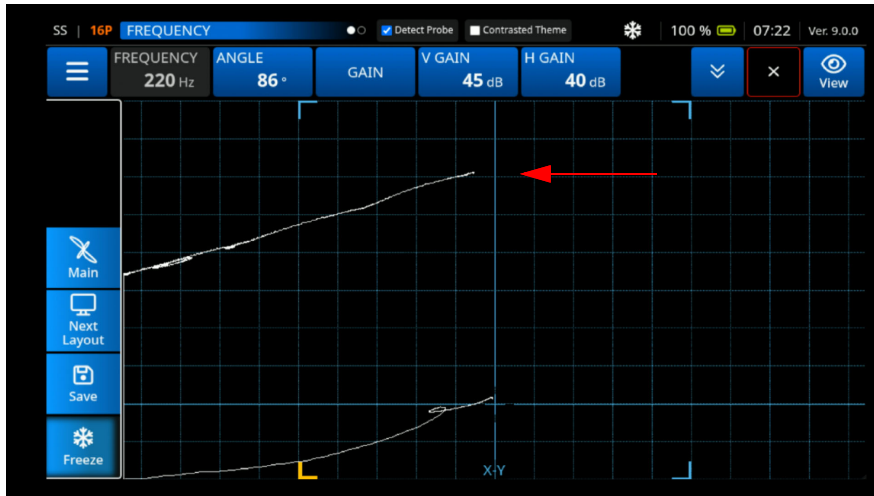

Figure 3-73 Adjust the V Gain Setting
- Using the **V Gain** setting and the knob, adjust the cracked fastener signal at **80% FSH** (See Figure 3-73 on page 97).